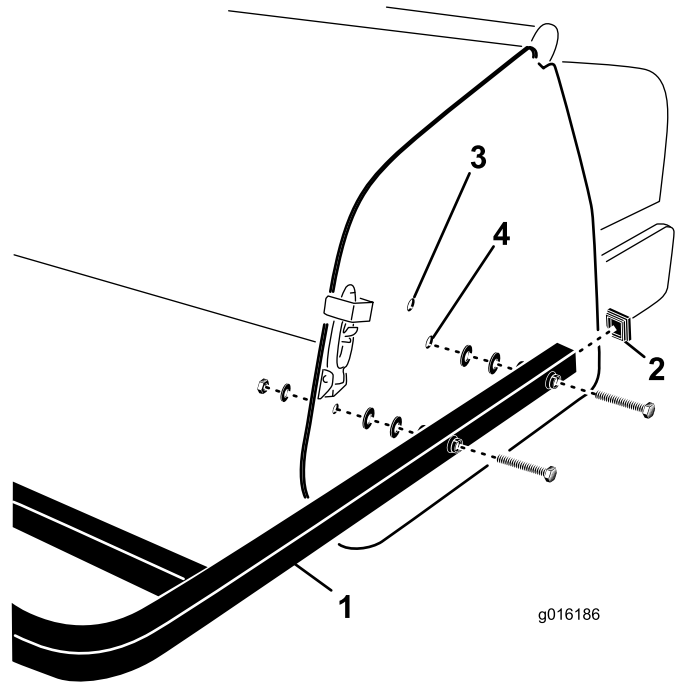

Figure 32
1. Insert the end caps into the ends of the rear guard tubes (Figure 32).
2. Align the holes in the rear guard mounting tubes with the holes in the aerator side plates (Figure 32).
3. Secure the guard mounting tubes to the side plates with 4 screws, flat washers and nuts (Figure 32).